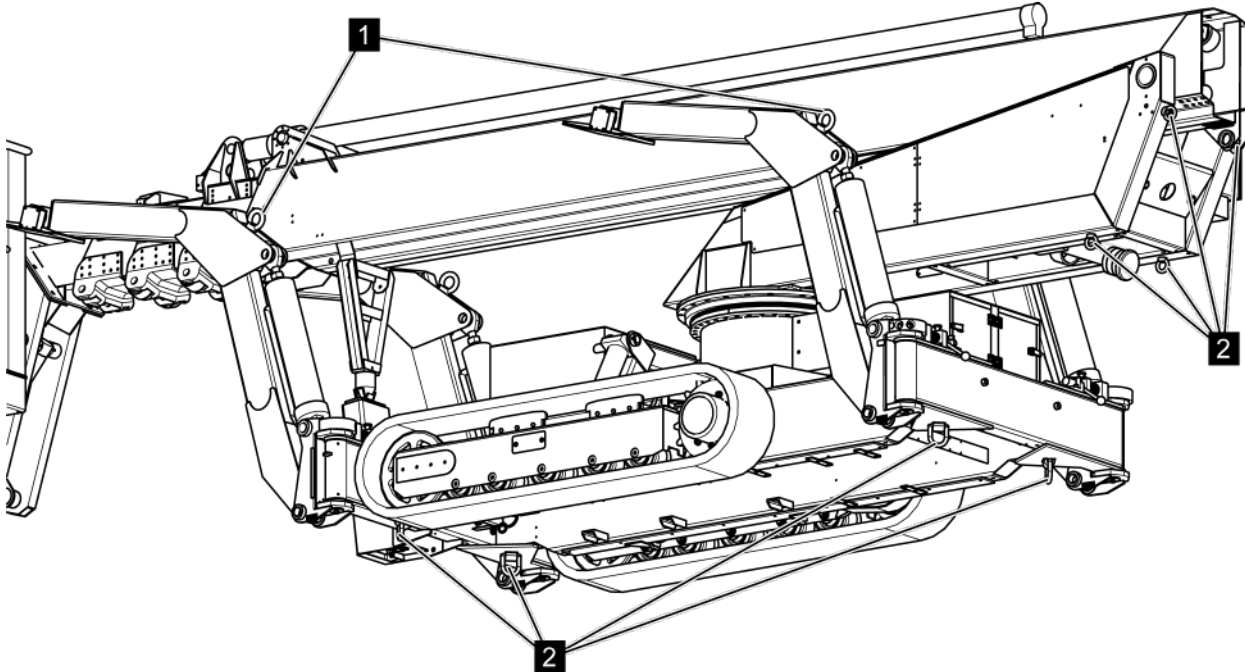

Fig. 39: Attachment points
The attachment points (Fig. 39/1) are marked with the Fig. 40 symbol.
- The aerial access platform must be anchored to the means of transport with safety belts on the lashing eyes (Fig. 39/2) provided.